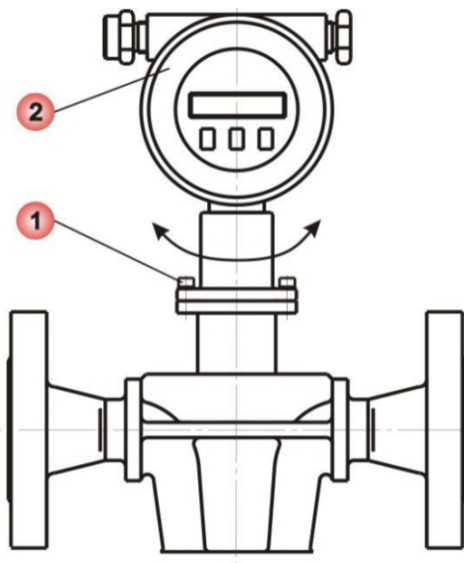

Figure 2.10 Rotation of the transmitter
Transmitter If in the process of installation the front side of the transmitter appeared to be not in front of the user and display is not visible, it is possible to rotate the transmitter at an angle of 90° or 180°, so that the display is facing the user. To do this, unscrew the four bolts (1) (see Figure 2.10). Then turn the transmitter (2) by 90° or 180° in the desired direction and tighten those 4 bolts to ensure sealing.